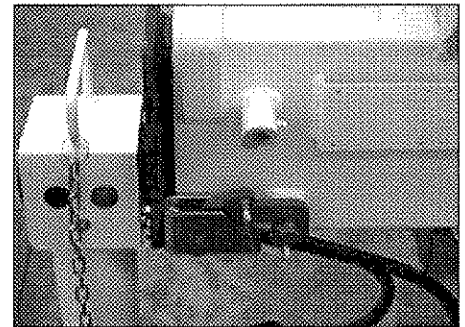
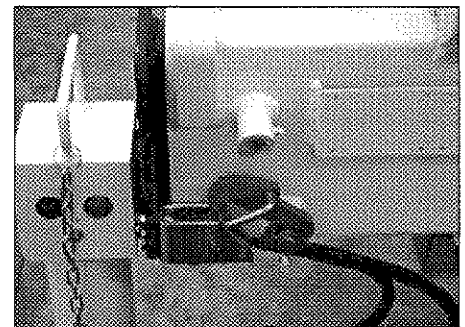

fig. 28
fig. 28a
- Disengage the locking devices of the outrigger supports by putting the levers **A** from the position of the fig. 28 to the one of the fig. 28a
Keep hands clear of automatic stop device (lever **A** from the position of the fig. 28a to the one of the fig. 28).
Always check that the outriggers supports, once in their rest position, are locked in their seat by the locking devices, so as to assure the impossibility of accidental movement. (Fig. 28).